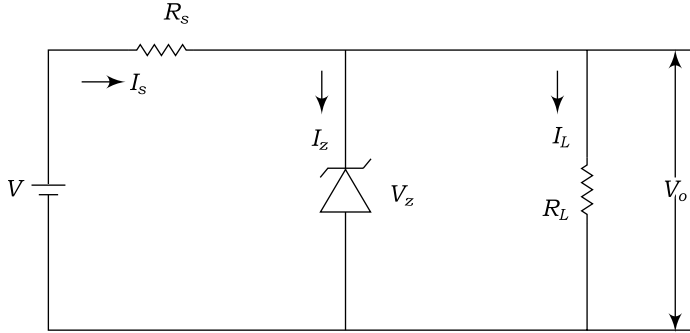

Fig. 1.15 Zener diode shunt regulator
Figure 1.15 shows a zener diode shunt regulator circuit. In this circuit, zener is connected in parallel with the load. Therefore, this circuit is called *shunt regulator*. A resistance R_S is connected in series with the voltage source (V) and zener diode to limit the current flow in the circuit. Hence, R_S is known as *series current limiting resistance*. R_L is the load resistance. The output voltage across R_L is V_O . The input voltage V is always greater than the zener voltage (V_Z) and the zener operates in the reverse breakdown region.